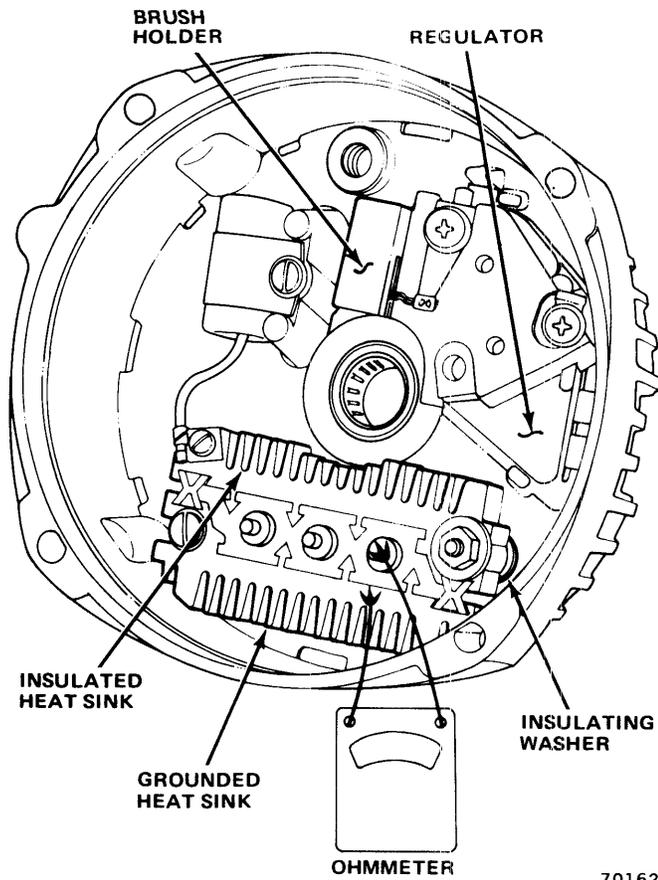

Fig. 3-33 Rectifier Bridge Check
- (1) Connect ohmmeter to grounded heat sink and one of three terminal tabs (fig. 3-33). Note reading.
- (2) Reverse lead connections to the grounded heat sink and same terminal tab. Note reading.
- (3) Replace rectifier bridge if both readings are the same.
- (4) Repeat steps (1) and (2) between the grounded heat sink and the other two terminal tabs, and between the insulated heat sink and each of the three terminal tabs. The ohmmeter check of the rectifier bridge, and of the diode trio as previously covered, is a valid and accurate check.
- (1) Remove capacitor lead attaching screw.
- (2) Disconnect capacitor lead from rectifier bridge.
- (3) Remove rectifier bridge attaching screws and battery terminal screw.
- (4) Remove rectifier bridge. Note insulator between insulated heat sink and end frame (fig. 3-33).